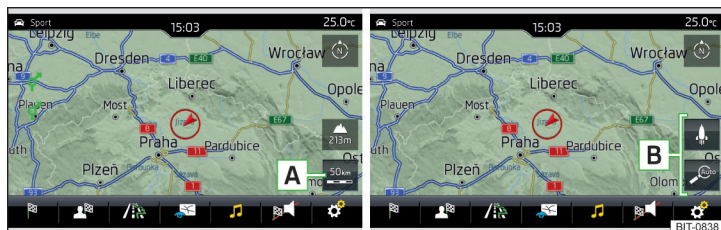

Fig. 182 Function surfaces for changing the map scale
► Tap the function surface **A** » Fig. 182.
In area **B** » Fig. 182, function surfaces for changing the map scale are displayed.